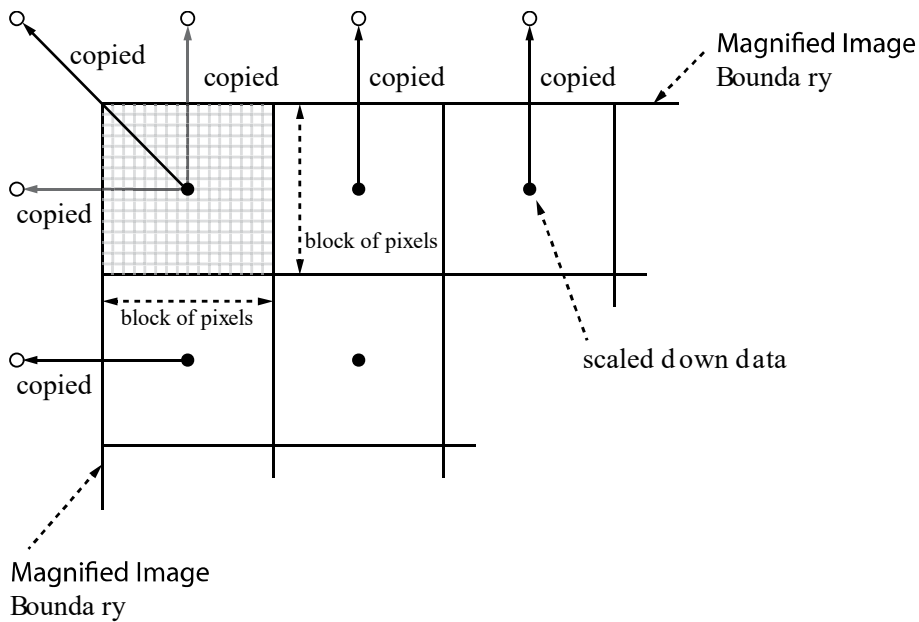

Figure 9-7 Bilinear Interpolated Magnification
3. Execute the **Flat Field Data Save** parameter to save the generated Flat Field data into the non-volatile memory. When the scaled down Flat Field data are used for correction, they are expanded and applied with a Bilinear Interpolation as shown in the Figure 9.7.